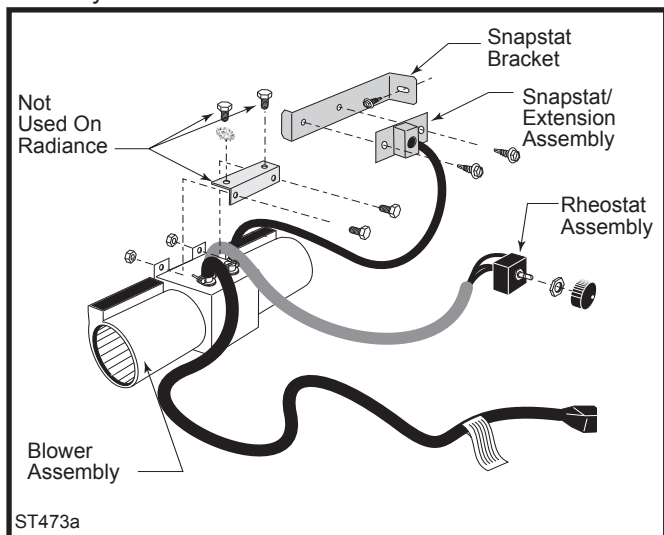

Fig. 15 Fan kit components.
1. The fan kit includes a Blower Assembly and a Rheostat Assembly, connected by a cable. (Fig. 15) The Blower Assembly mounts to the bottom rear of the stove, and the Rheostat mounts to the valve cover-plate. The assembly includes a 'snapstat' which automatically turns the fan On (or Off) above (or below) approximately 109°. The Rheostat also provides a range of fan speed settings from Off (which overrides the snapstat function) to High. Unpack and inspect the Blower assembly. Confirm that the fan spins freely.